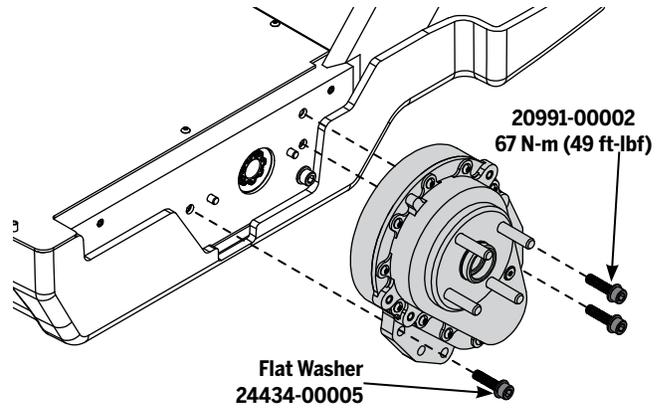

Figure 123: Gearbox
3. Using a 8 mm hex wrench, remove the three fasteners as shown in **Figure 123**.
5. Using an 8 mm hex wrench, install the three Gearbox fasteners. See **Figure 123**. Torque to **67 N-m (49 ft-lbf)**.